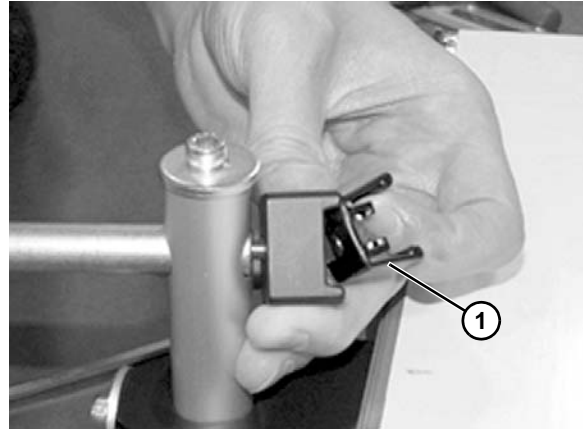

**Figure 30**
2. Tighten screws (**Figure 30, item 1**) making sure t-nut (**Figure 30, item 2**) rotates and engages inside of the t-slot.